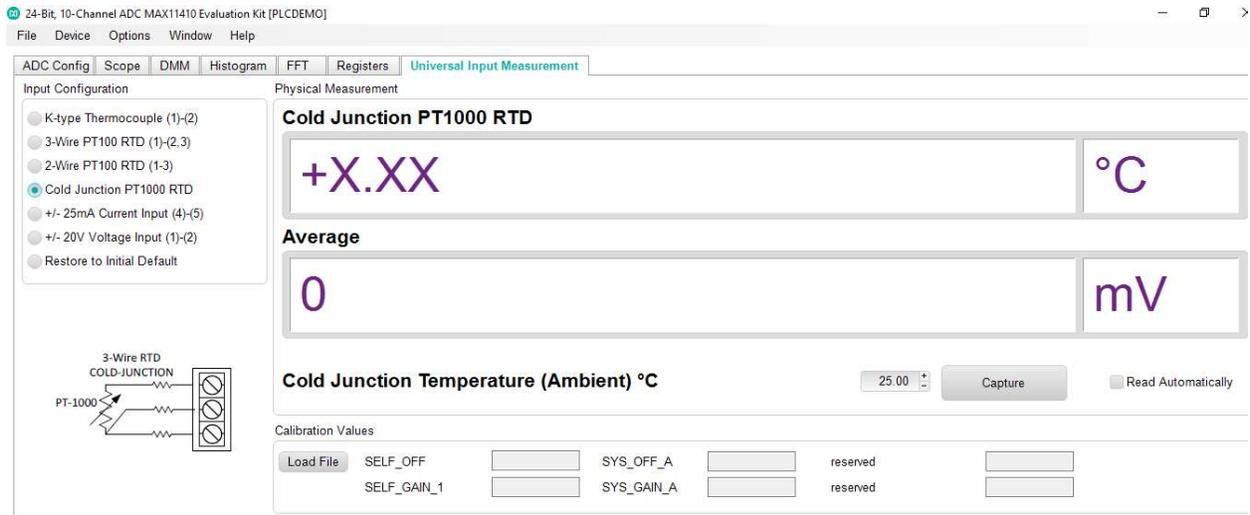

Figure 7
a. Firstly, COLD Junction PT-100 reading radio button is selected as shown below in Figure 7